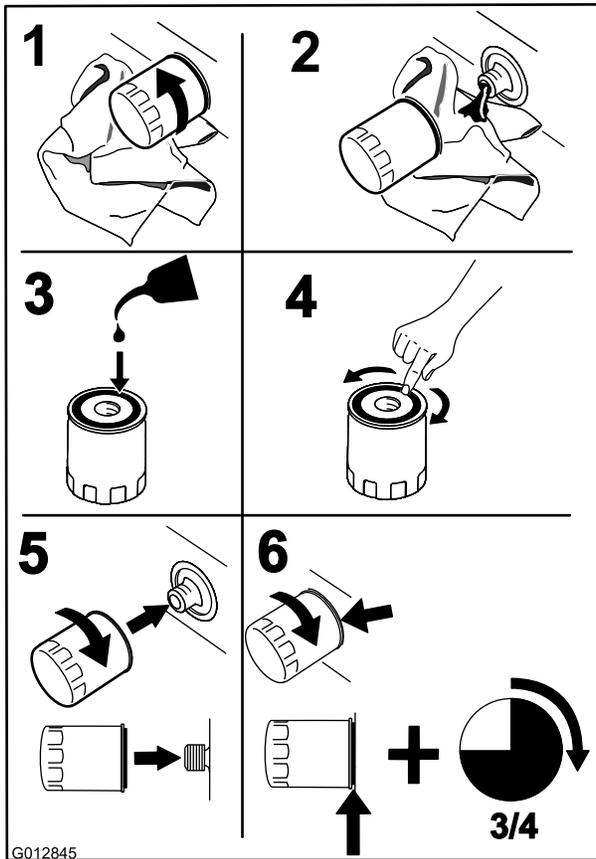

Figure 46
3. Change the engine-oil filter (Figure 46).